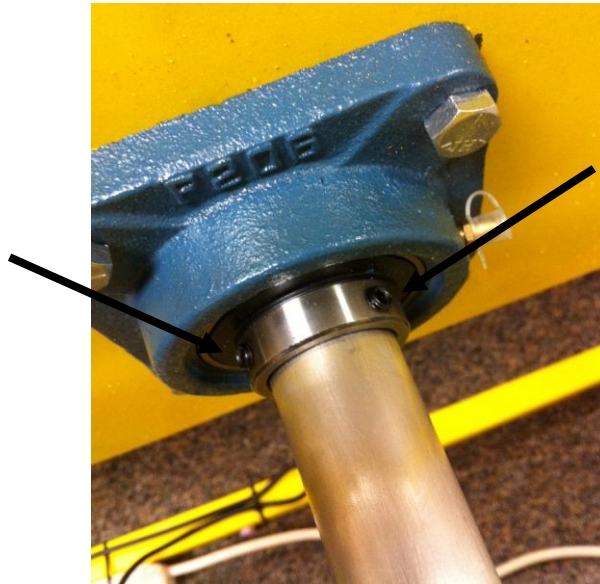

Figure 21 – Bottom flange bearing
- a. Loosen (but do not remove) the two lock screws in the collar of the flange bearing, shown in Figure 21.